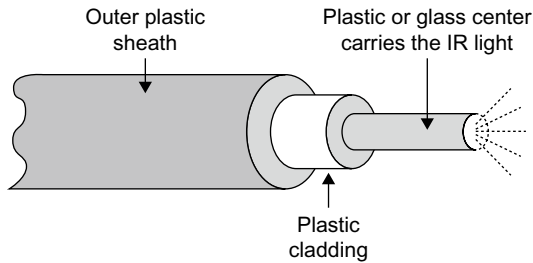

FIGURE 9.5 Fiber optic cable. It is nonconductive because it is made of plastic and glass, and is used to transmit data as infrared (IR) light pulses.
Fiber optic cable consists of a thin glass or plastic center piece surrounded by a plastic outer cover. Then that is further wrapped by an outer plastic covering (see Figure 9.5). Light waves are passed down the center glass or plastic cable. Most light comes from an infrared (IR) light laser. You cannot see IR but it is light nonetheless. IR light is what your TV remote control uses. The IR light is pulsed off and on to create binary signals. These are picked up